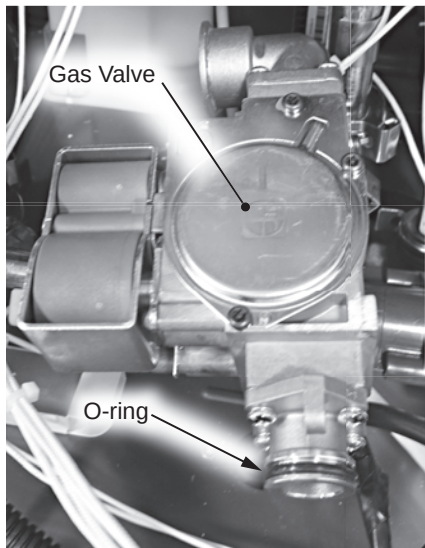

Figure 65 - Gas valve o-ring
- 14** Locate the new O-ring included in the kit, install it as shown in Figure 65.